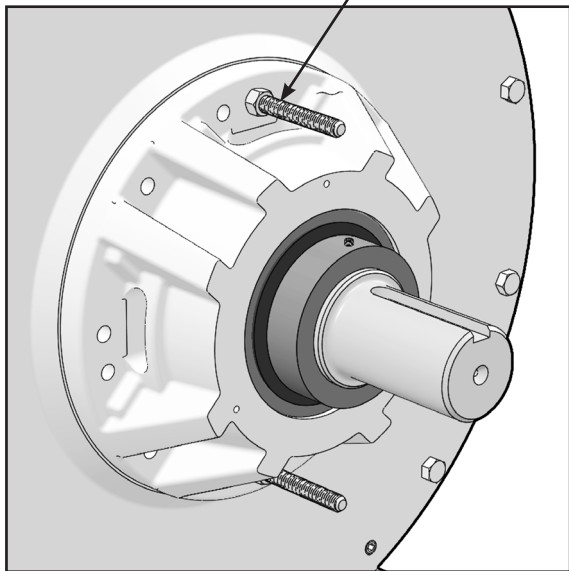

FIGURE 18
25. Using the all thread, tighten each nut in an alternating pattern to prevent binding using a deep socket (Figure 18).